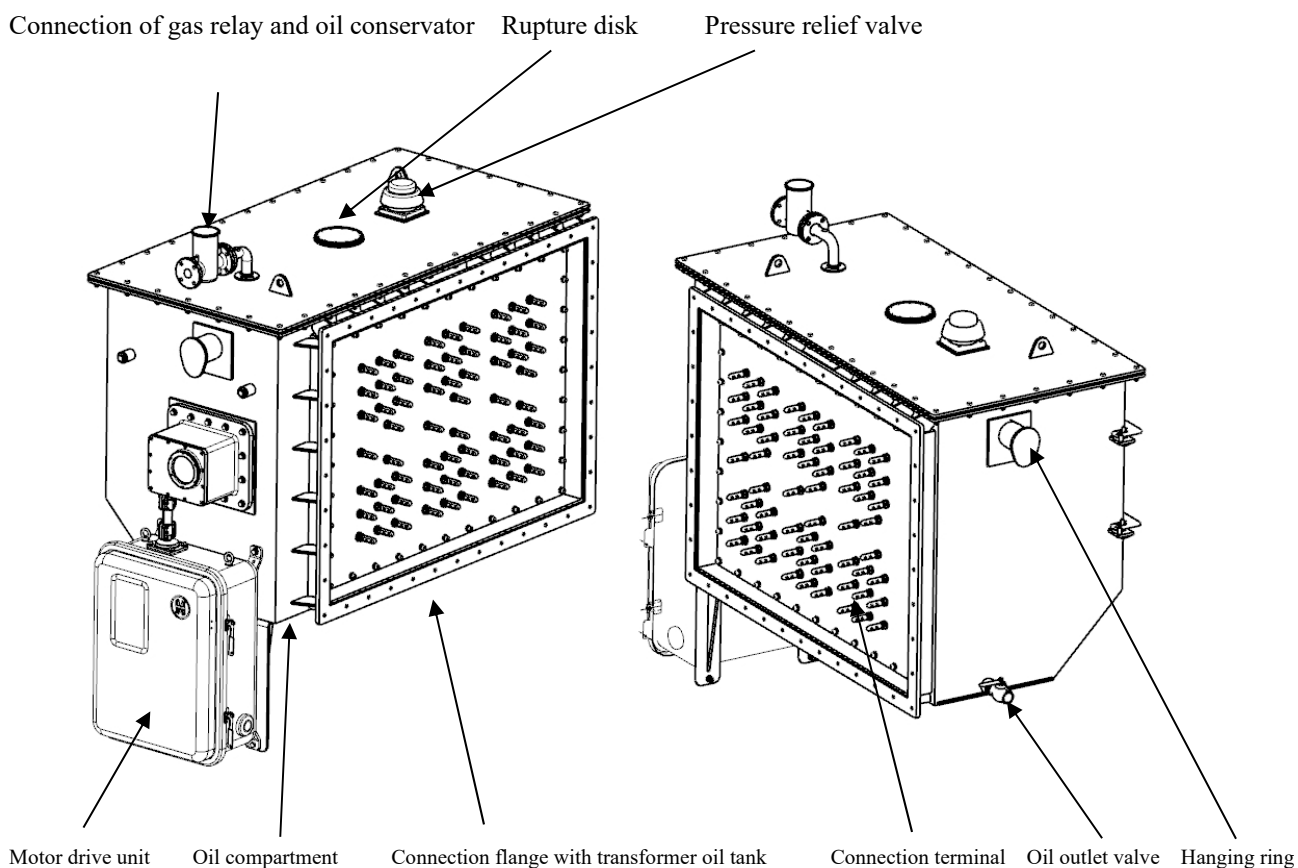

Fig. 1
1.1 Huaming self-designed type HWV OLTC adopts a unique structure of external-mounted compartment. It houses diverter switch and tap selector in an oil compartment and mounted on the transformer tank, which is completely separate from the transformer tank. Type HWV OLTC is applied to three-phase D connection and Y connection power transformer and industrial transformer with highest voltage of equipment 17.5kV, 40.5kV and 72.5kV, three-phase current < 1000A, rated frequency 50HZ or 60HZ. (Max. operating positions with change-over selector < 35.) as shown in Fig. 1